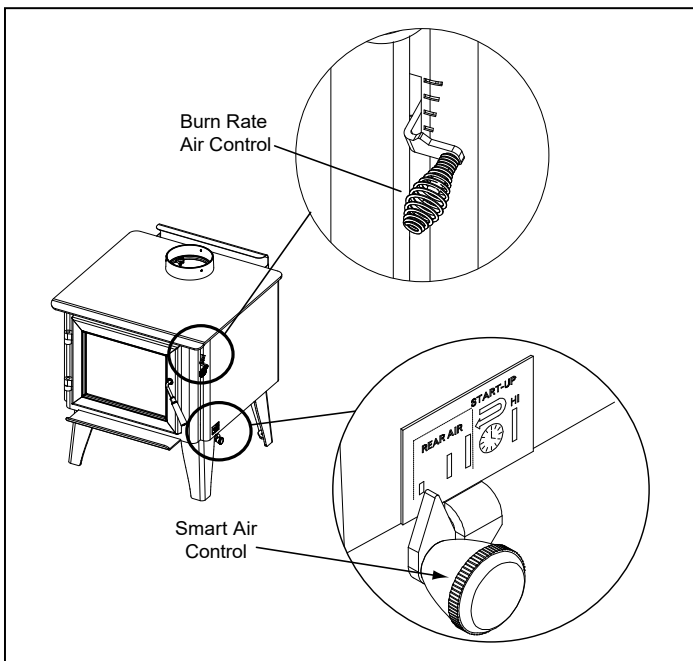

Figure 9.1
2. **Second Stage:** The next stage of burning, the secondary stage, is the period when the wood gives off flammable gases which burn above the fuel with bright flames. During this stage of burning it is very important that the flames be maintained and not allowed to go out. This will ensure the cleanest possible fire. If the flames tend to go out, it is set too low for your burning conditions. The air control located at the upper right hand corner is used to adjust for burn rates. This is called the **Burn Rate Air Control (Figure 9.1)**.
- Then activate the Smart Air Control by pushing the knob all the way back toward the appliance to “HI” then pull forwards towards the front of the appliance until the knob stops (**Figure 9.1**).